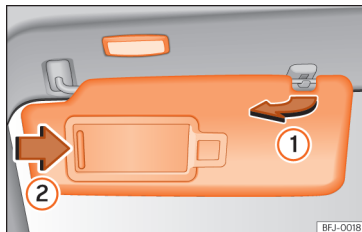

Fig. 113 Sun visor
- The sun visor can be pulled out of its mounting and turned towards the door »» Fig. 113 ①.